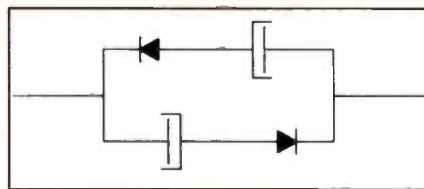

Figure 1. What is the name of the component that is the equivalent of this arrangement?
1. What is the name of the component circuit in Figure 1?